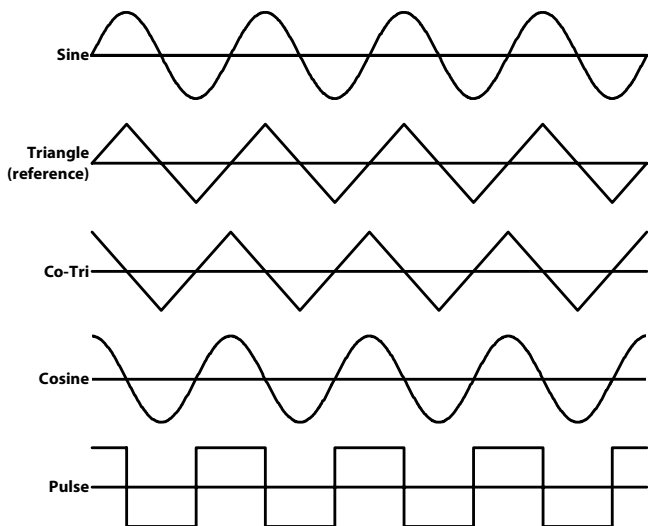

Fig. 4 The LFO waveforms
The waveforms were provided by the jacks (12)-rectangle, (14)-triangle, (16)-Co-triangle, (17)-Cosine, (18)-Sine. Fig. 4 shows all waveforms in their correct phase relationship.